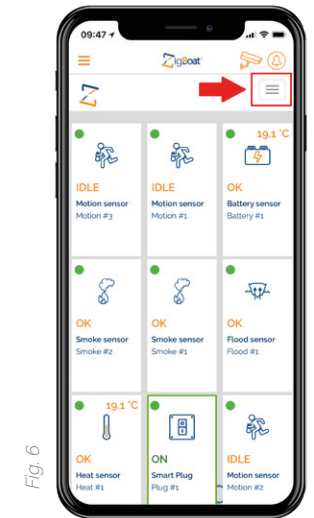
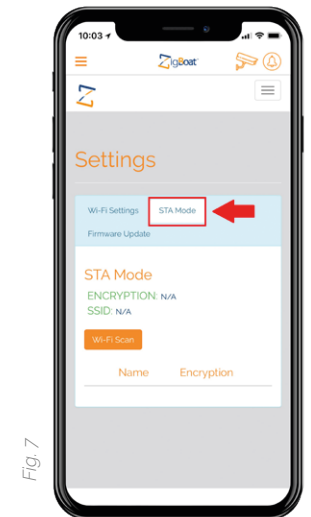

Fig. 6
Fig. 7
- Connect the ZigBoat™ Gateway to the WiFi network of webBoat 4G Plus (optional) or to a known external WiFi network (for example Marina etc). Select the menu button on the top right (fig. 6), then select SETTINGS tab. On the STA MODE tab (fig. 7), click on the button "Wi-Fi scan". Choose the Wi-Fi network you want to connect to, enter the password (if needed) and then press the button "Yes, proceed". Now, the ZigBoat™ Gateway is connected to the internet and can send you push notifications if the connected sensors detect a critical event.
Select the menu button on the top right (fig. 6), then select the SETTINGS tab (fig. 8). On the Wi-Fi settings tab, fill in the SSID field with your customized name (fig. 9). Please don't use special characters.